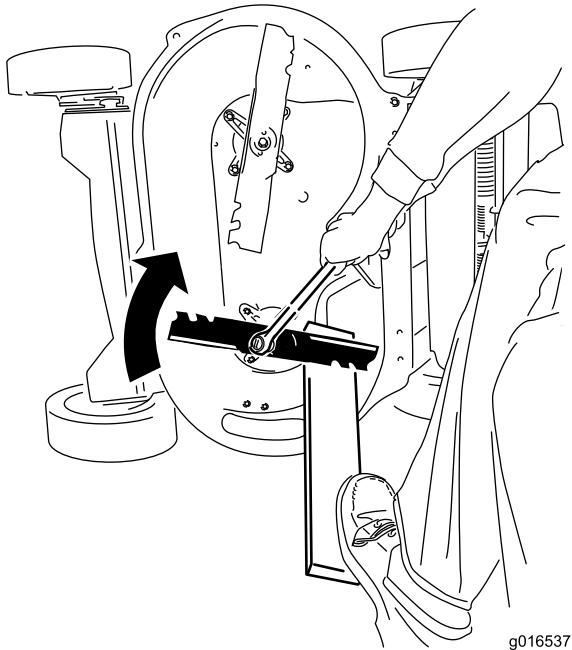

Figure 45
- Steady each blade with a board and turn the blade bolt clockwise with a torque wrench as shown in Figure 45; torque the blade bolt to 82 N·m (60 ft-lb).